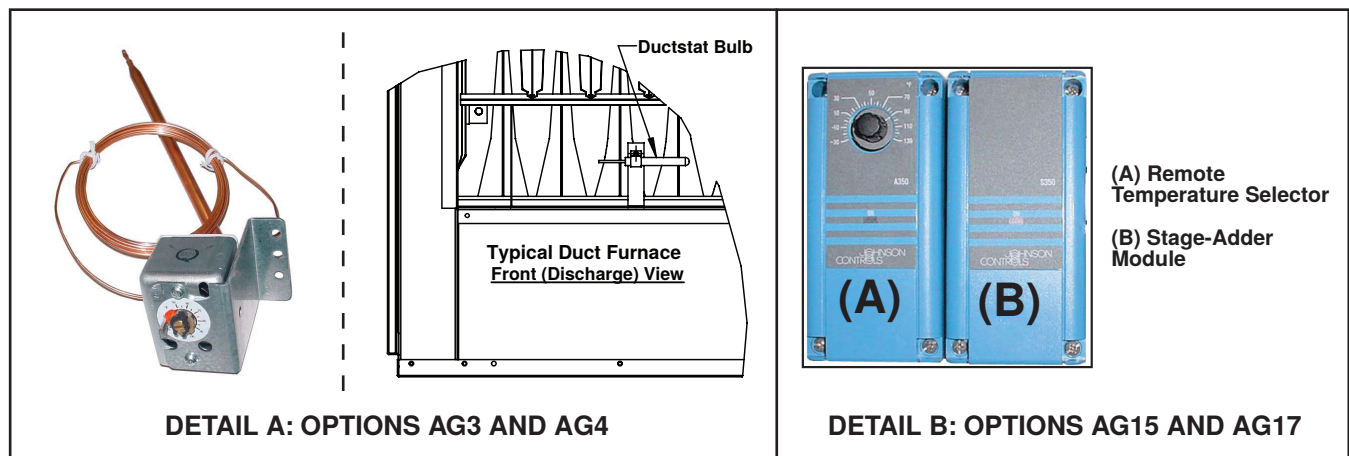

Figure 13. Ductstat Options
- Depending on the option selection, the factory-installed sensor is either field-connected by capillary tubing to the unit-mounted ductstat (see Figure 13, DETAIL A), which is factory-set at 70°F (21°C), or electrically-connected to a remote field-installed electronic temperature selector (see Figure 13, DETAIL B).
The unit-mounted ductstat shown in Figure 13, DETAIL A has an adjustable range of 0°F to 100°F (–17.8°C to 37.8°C) with a fixed differential of 3°F (1.7°C). Due to different CFM settings and outside air temperatures, the average downstream outlet temperature may not match the ductstat setting exactly. After the installation is complete, adjust the setpoint of the ductstat to achieve the desired average outlet air temperature.
- The field-installed sensing probe is field-wired to the remote temperature selector shown in Figure 13, DETAIL B, which has a temperature operating range to 130°F (54.4°C). The remote modules and sensing probe are shipped separately for field-installation. Follow the wiring diagram provided with the unit and the manufacturer's instructions for wiring and installation. Depending on the staging provided, there will be one module for selecting temperature and either one or two stage-adder modules.